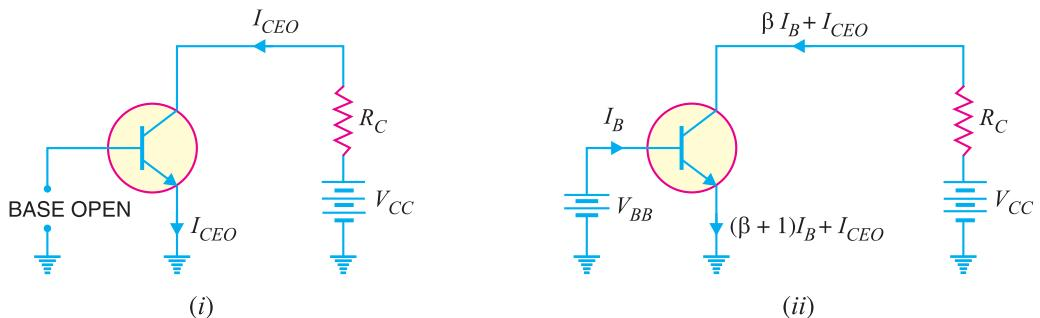

Fig. 8.17
**Concept of  $I_{CEO}$ .** In *CE* configuration, a small collector current flows even when the base current is zero [See Fig. 8.17 (i)]. This is the collector cut off current (*i.e.* the collector current that flows when base is open) and is denoted by  $I_{CEO}$ . The value of  $I_{CEO}$  is much larger than  $I_{CBO}$ .
When the base voltage is applied as shown in Fig. 8.17 (ii), then the various currents are :